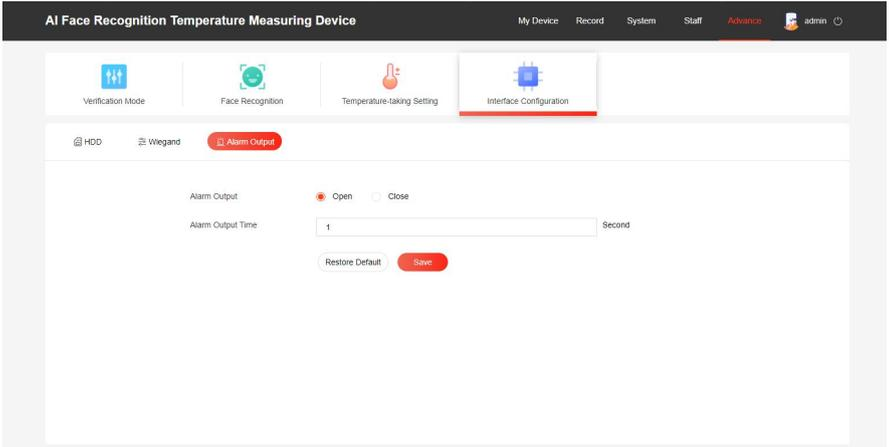

Figure 7-28
Step 1: After logging in to the web page, click "Advance → Interface Configuration → Alarm Output" to enter the alarm output setting interface, as shown in Figure 7-28 below.